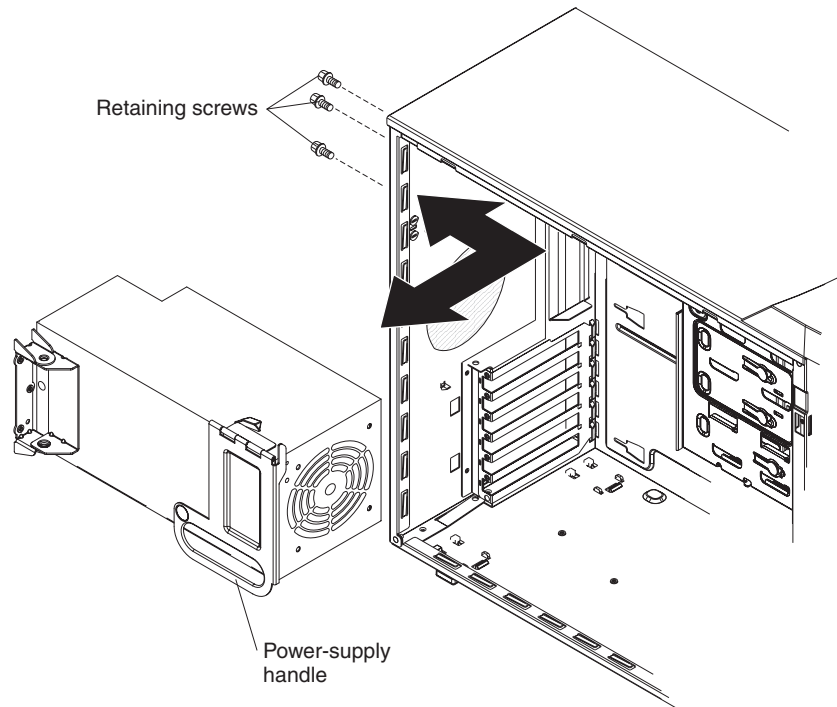

Figure 60. Removing the power supply
6. Support the power supply; then, lift the power-supply handle and rotate the power supply out of the chassis (see Figure 60).